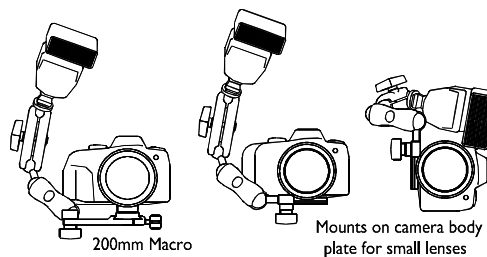

Figure 7 (M-1 shown, M-9 will work too)
2. You can also make a Macro Bracket by removing the M-3 Tilt Arm and adding the M-4 Macro Arm to the M-9 quick-release module (*Fig. 7*). *Note: the quick-release knob on the M-9 is larger than that of the M-1; this may cause clearance issues in certain configurations.*